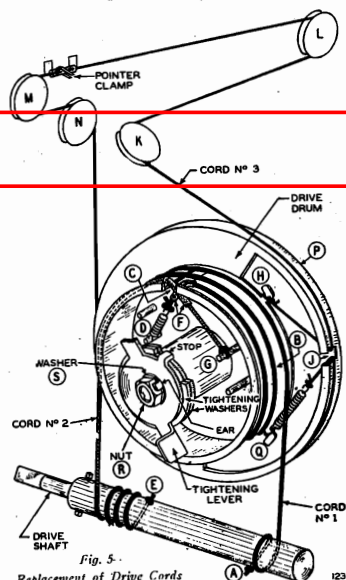

Fig. 5—Replacement of Drive Cords
Pass the cord through slot (J) in groove (P) of the drive drum. Bring the cord up to pulley (K), around the other pulleys as shown in Fig. 5, and down to groove (F). After passing the cord around the drive drum 1/2 turn in groove (P), fasten the spring to hook (Q).
Attaching Dial Pointer—Tune in a station of known frequency. Move the pointer to this frequency on the dial scale. After the pointer has been moved to the correct position, clamp it tightly over the fabric tubing on the cord—See Fig. 5.
Pressure of the spacers against the heart cams is determined by the position of nut (R) on the threaded shaft—See Fig. 5. If, after the tightening lever is turned to the "tight" position, the cams can turn relative to the shaft, this nut must be tightened.
Bend back the ears of washer (S)—See Fig. 5, and tighten nut (R) about 1/2 turn. Bend the ears of the washer down again on nut (R). Tighten the tightening lever and see if the cams are sufficiently tight.
Three drive cords, Nos. 1, 2, and 3, as shown in Fig. 5, are used. To replace any of these cords, proceed as follows:
Turn the drive shaft so that the holes for the cord are vertical. The positions of the drive shaft and drive drum are shown in Fig. 5.
Starting at the point where the cord leaves hole (A), wind it around the shaft 3/4 of a turn as shown in Fig. 5. Bring the end up to the wide groove (B) in the drive drum and wind on 2 1/4 turns, progressing toward the edge of the groove. Pass the cord through the slot at (C), placing the fabric tube (F) in position to protect the cord from being cut, and hook the spring to the pin at (D).
Starting at the point where the cord leaves hole (E), wind it around the shaft 3/4 turns as shown in Fig. 5. Do not attempt to wind the cord on the drive drum, but put the loop in the slip knot over pin (G). Rotate the drive drum clockwise about 1/4 turn. This will unwind the cord on the drive shaft at (E).